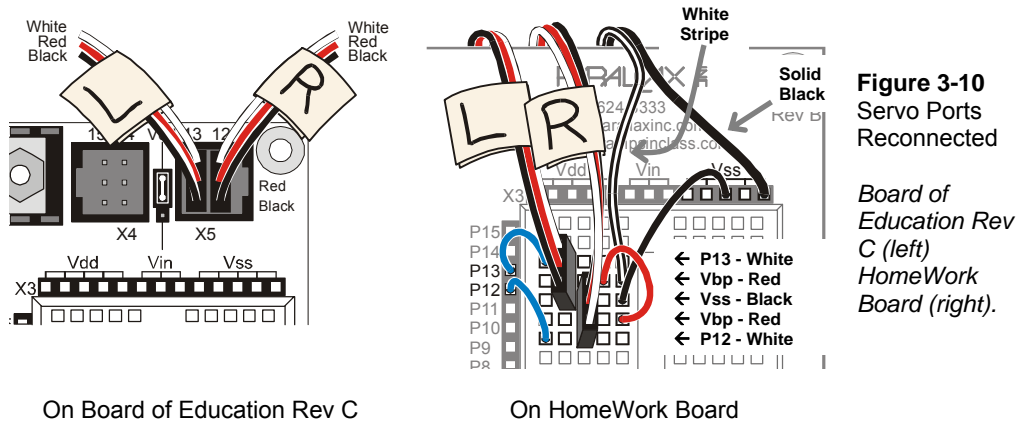

Figure 3-10
Figure 3-10 shows the servo ports reconnected for both the Board of Education Rev C (left side) and the HomeWork Board (right side).
- √ Double-check your servo connections using Figure 3-10 on page 100 as a guide. If you are using a HomeWork Board, you may also want to take a second look at Figure 2-18 on page 65.